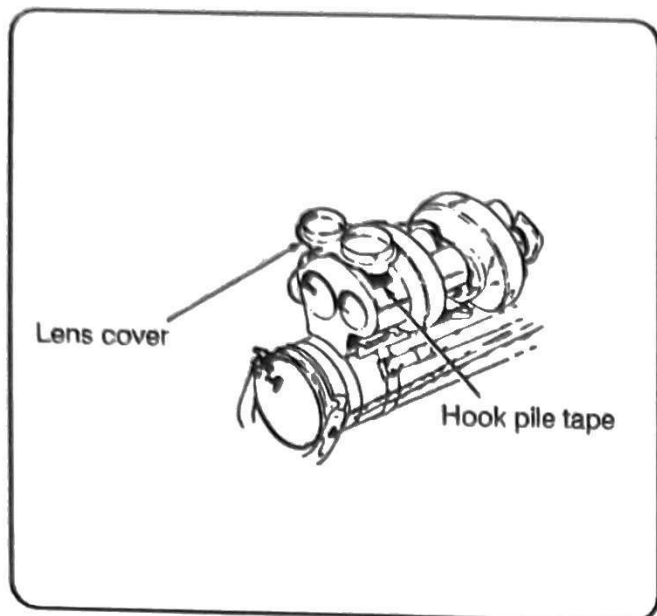

Figure 4-3. Cover secured to forward shock absorber.
d. **Removing the Lens Cover.** Secure it on top of the forward shock absorber. Make a visual inspection of the lenses for damage or obstruction (Figure 4-3).